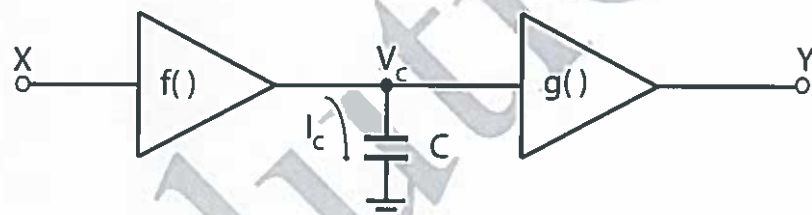

Figure 3.1
- b) Figure 3.1 shows a block diagram of a current-mode integrator, with an input X and an output Y . $f()$ and $g()$ represent non-linear functions which compress and expand the signal such that input-output relationship of the integrator is linear and given by: